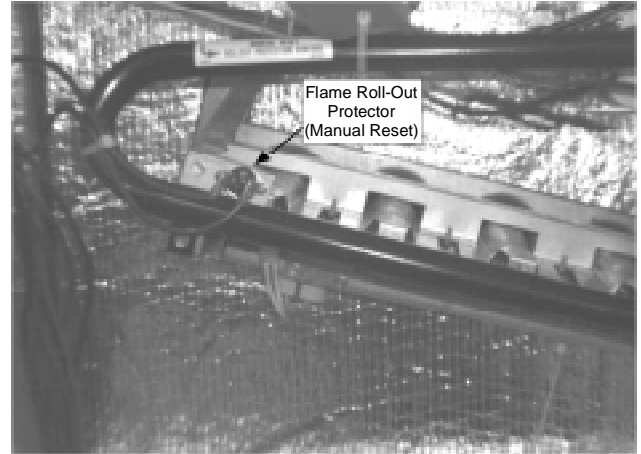

Figure 16
NOTE: Figure 16 illustrates the proper gas valve mounting location.
6. Turn the gas control valve knob to the OFF position. Do not force. (Figure 16).
8. Smell for gas, including near the ground. This is important because some types of gas are heavier than air. If you have waited five minutes and you do smell gas, immediately follow the instructions on Page 6 of this manual. If you have waited five minutes and you do NOT smell gas, turn the gas control valve knob to the ON position. (Figure 16).
4. Turn the gas control valve knob to the OFF position. Do not force. See Figure 16.